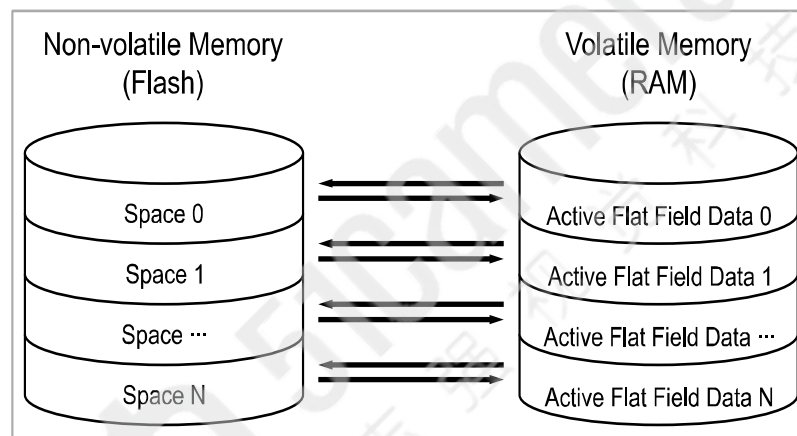

Figure 9-10 Flat Field Data Selector
3. Execute the **Flat Field Data Save** parameter to save the generated Flat Field data into the non-volatile memory. When the scaled down Flat Field data are used for correction, they are expanded and applied with a Bilinear Interpolation as shown in the **Figure 9-10**.